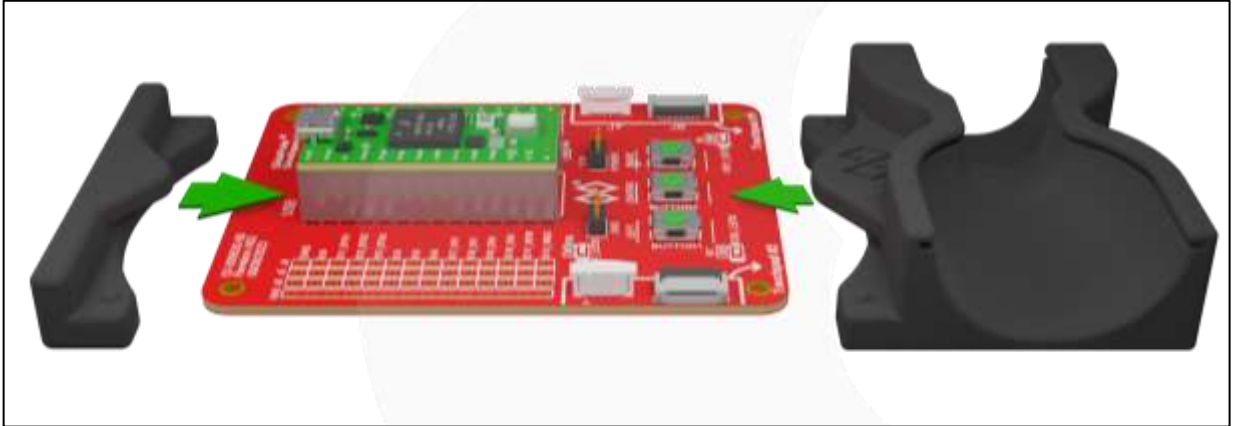

Figure 2: Slide the holder so that it clips into the corner mounting holes as shown above.
1. If your dev kit came with a trackpad holder, you may attach it to the development board for ease of use. The holder attaches to the mounting holes in the corner of the dev board. There may be a second smaller piece that connects to the other side to help level the board (see Figure 2). The use of this holder is optional, but it will assist with the orientation of the trackpads during development.